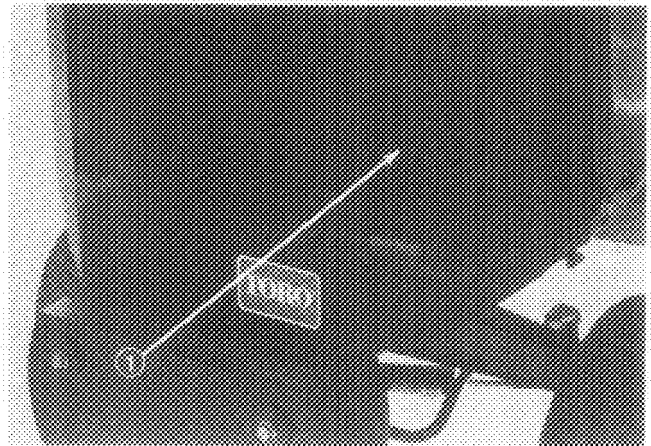

Figure 38
## ENGINE COOLING SYSTEM (Fig. 38–39)
- B. Unscrew knobs and remove rear screen (Fig. 38). Clean screen thoroughly.